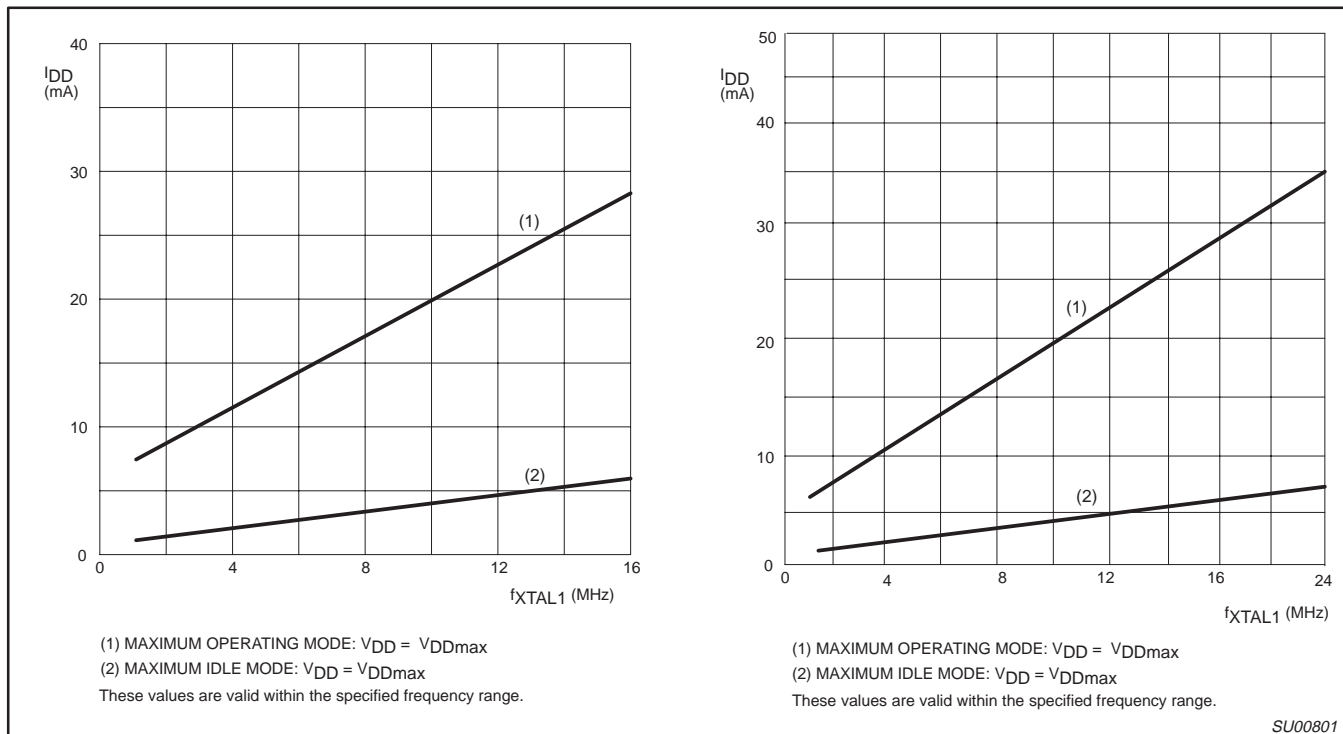

Figure 1.  $I_{DD}$  vs. Frequency
- $I_{DDMAX}$  for other frequencies can be derived from Figure 1, where  $FREQ$  is the external oscillator frequency in MHz.  $I_{DDMAX}$  is given in mA.